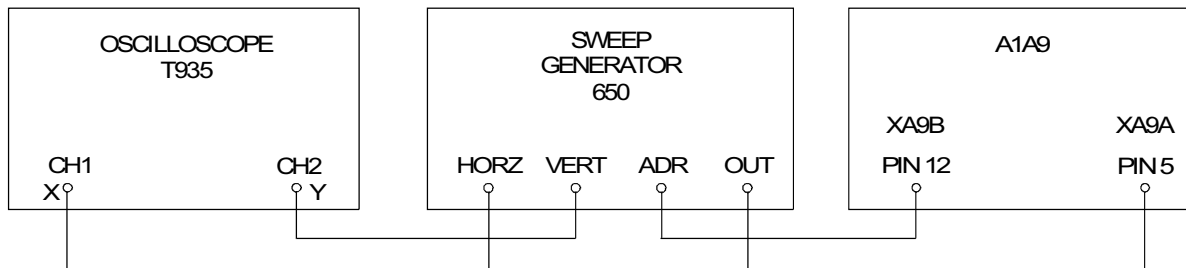

Figure 4-7. AM/FM Demodulator Alignment, Equipment Connections
3. Connect the test equipment as illustrated in **Figure 4-7**.